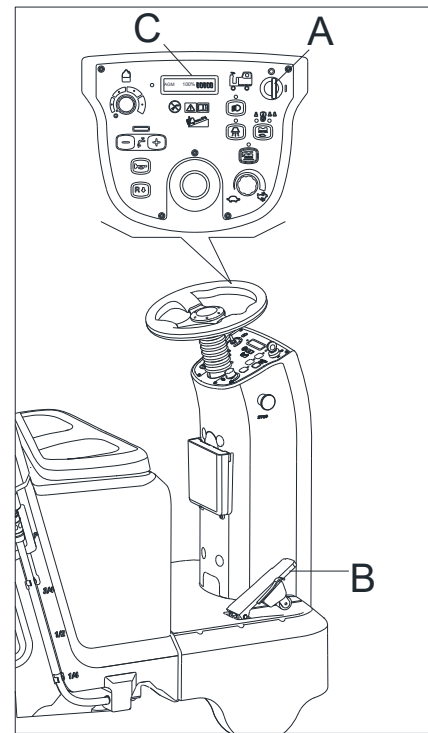

Figure 27
1. Turn the ignition key (A, Figure 27) to "I".
2. Press the switch (B Figure 27), the hour meter (C Figure 27) begins to work and it at the same time shows the total number of working hours (scrubbing/drying) performed by the machine.
3. Release the switch (B Figure 27).
4. Turn the ignition key (A Figure 27) to "0".